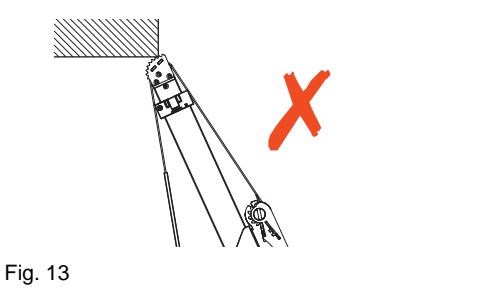

Fig. 13
- Place the grip head of the V-strut against a vertical surface of the vehicle. Do not place the grip head under a horizontal surface or edge. Refer to Fig. 12 and Fig. 13. When the tension belt will be tightened the grip head will be pulled firmly down and against the vehicle to provide stabilization.